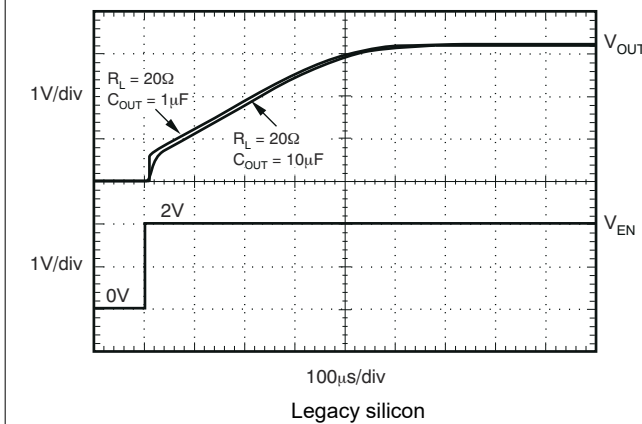

图 5-39. TPS73701 Turn-On Response
The enable pin (EN) is active high and compatible with standard TTL-CMOS levels. V_{EN} below 0.5 V (maximum) turns the regulator off and drops the GND pin current to approximately 10 nA. When EN is used to shutdown the regulator, all charge is removed from the pass transistor gate. A V_{IN} above 1.7 V (minimum) turns the regulator on and the output ramps back up to a regulated V_{OUT} (see 图 5-39).